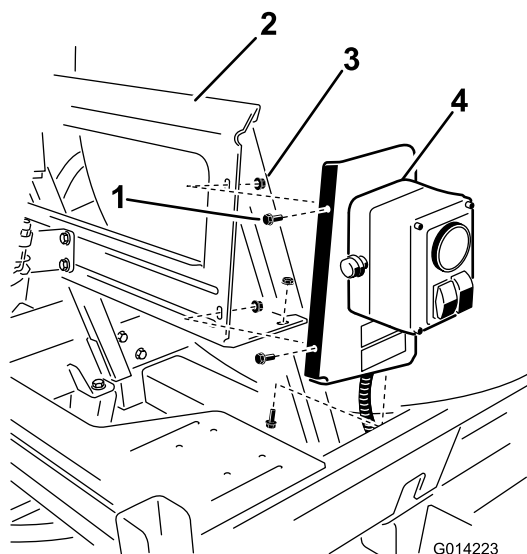

Figure 6
2. Install the assembly to the mount bracket using 3 bolts (1/4 x 5/8 inch) and 3 lock nuts (1/4 inch) as shown in Figure 6.